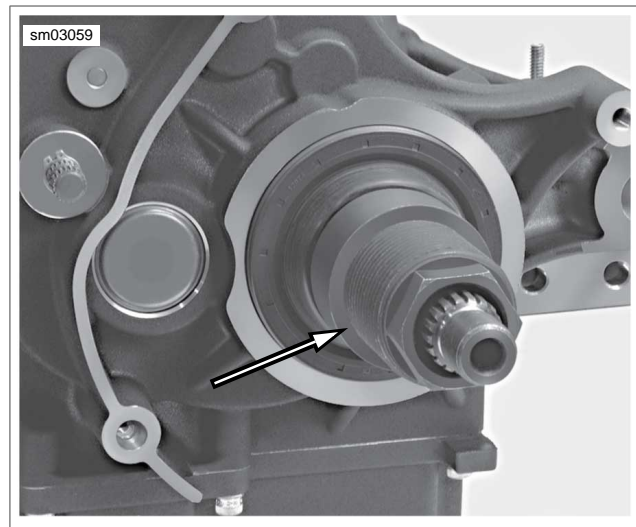

Figure 7-49. Install Adapter (Part No. HD-47856-3)
4. See Figure 7-49. Thread ADAPTER (Part No. HD-47856-3) onto end of main drive gear until it bottoms on main drive gear.